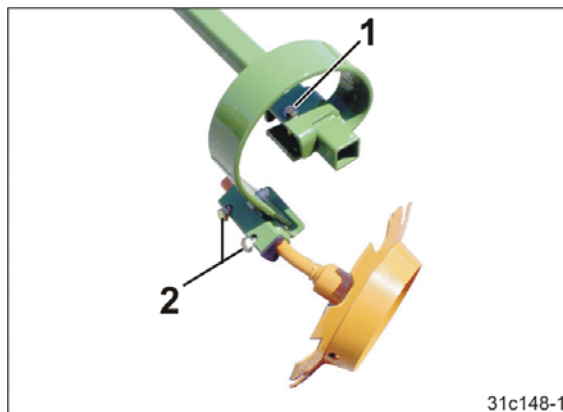

Fig. 193
4. Unscrew the bolt (Fig. 193/1).
6. Release both screws (Fig. 193/2).